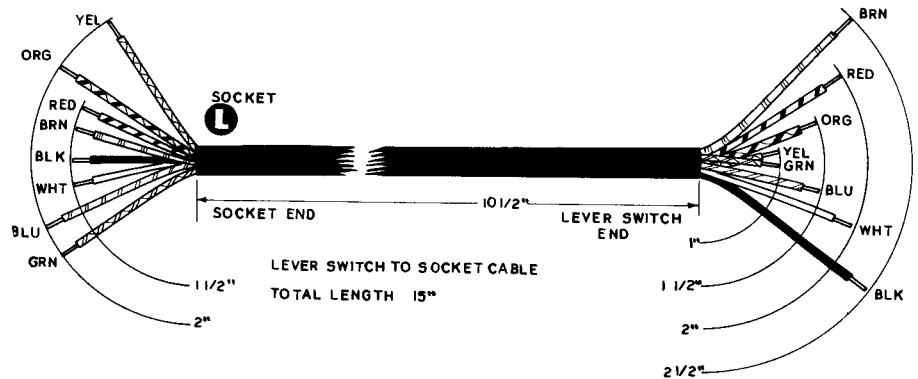

Figure 8A
- () Connect a 12 1/4" length of hookup wire from CC6 (NS) to DD3 (S-1). Pass the lead through grommets PP and QQ and dress around the lever switch assembly as shown in Pictorial 5.
- () Connect a 6 1/4" length of hookup wire from CC11 (S-1) to GG1 (NS). Pass the lead through grommet EE. See Pictorials 3 and 5.
- () Connect a 5" length of hookup wire from A1 (S-2) to DD1 (NS).
- () Connect a 6 1/4" length of hookup wire from A2 (S-2) to BB22 (NS).
- () Connect a 15" length of hookup wire to K4 (S-1). Dress the lead around the lever switch assembly, through grommets QQ and FF to the top of the chassis. Connect the other end of the lead to terminal strip RR (NS).
- () Prepare the 15" length of 8-wire cable as shown in Figure 8A. Cut all the leads to the length indicated (some leads are not cut off as their entire length will be used), strip off 1/4" of the plastic insulation from each lead and carefully twist and tin the exposed wires.